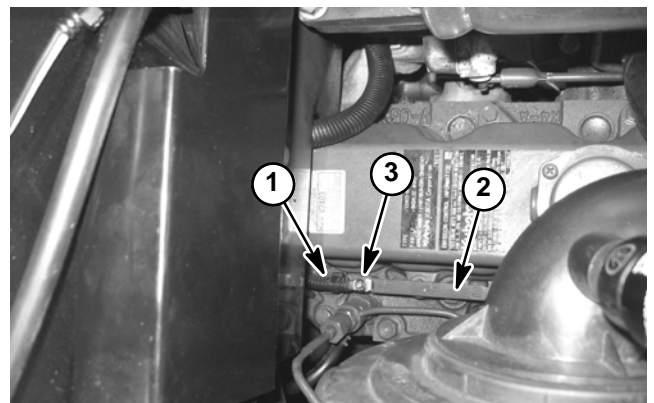

Figure 12
- B. The glow plug lead (Fig. 12).
- C. The glow plug lead (Fig. 12).